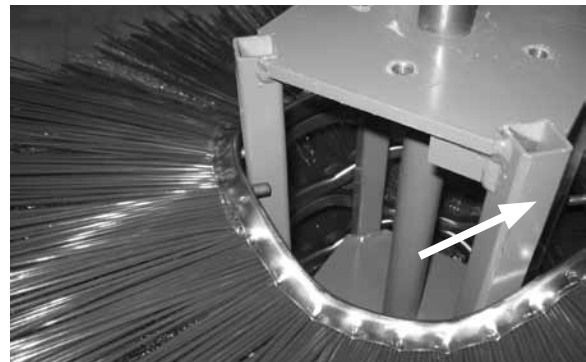

Figure 30
- Slide the first polypropylene section onto the core (Figure 30). Be sure drive pins on brush wafer (Figures 30 and 31) straddle a tube.